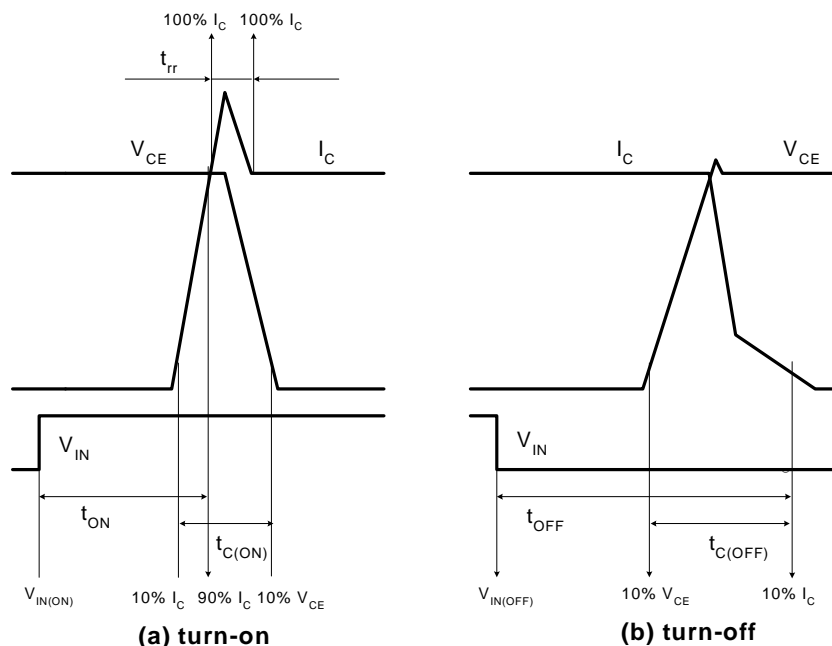

Figure 4. Switching Time Definition
- tON and tOFF include the propagation delay of the internal drive IC. tC(ON) and tC(OFF) are the switching time of IGBT itself under the given gate driving condition internally. For the detailed information, please see Figure 4.